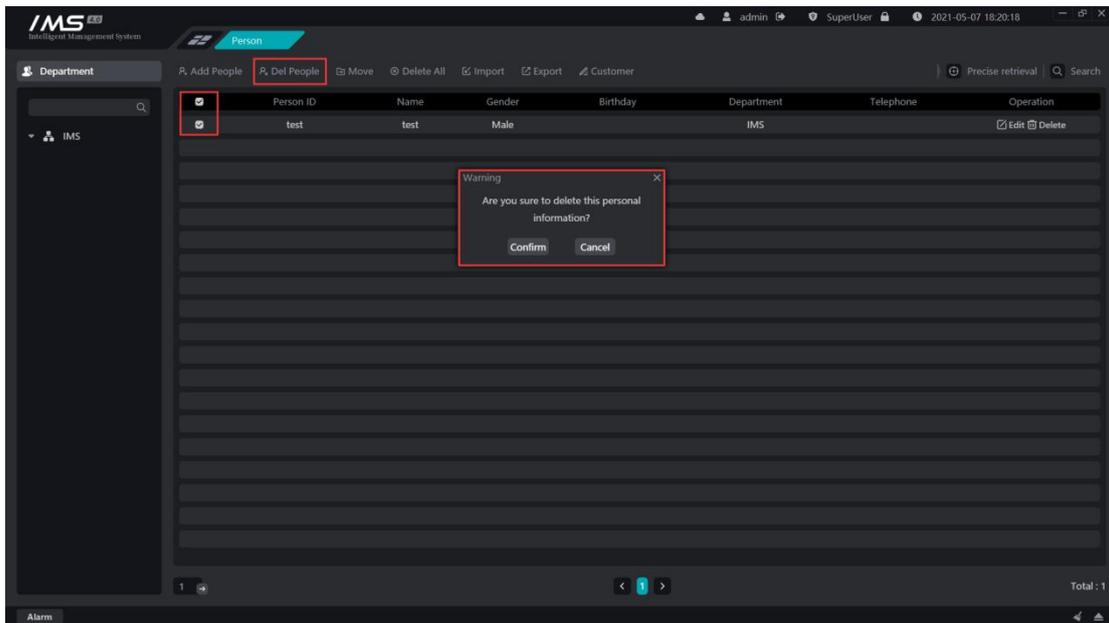

Figure 3-8
2 click the button  at the end of the list of people to prompt for a second confirmation, as shown in figure 3-8.
- 3 click the button [Delete person] on the list of people button to prompt for a second confirmation, as shown in figure 3-8.
- 2 click the button [one-click delete] above the personnel list to prompt the second confirmation, as shown in figure 3-8.